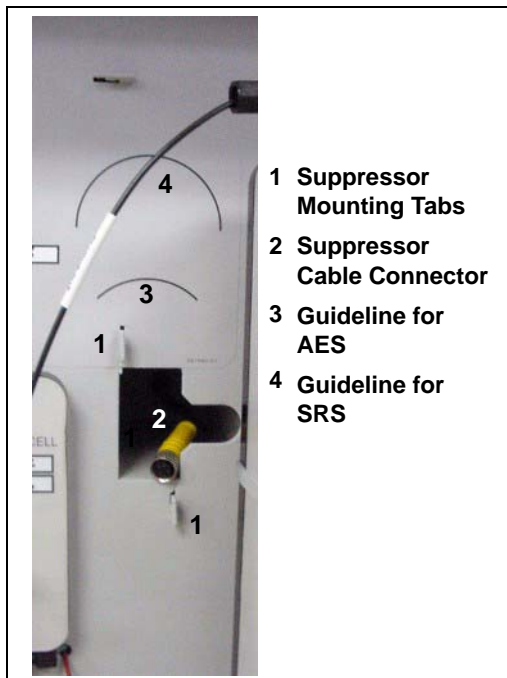

Figure B-20. Suppressor Mounting Tabs and Guidelines
1. Locate the suppressor mounting tabs on the component panel (see Figure B-20). Reach into the opening between the tabs and pull the yellow connector and attached cable slightly out of the opening.
5. Align the top of the suppressor with the guideline printed on the component panel (see Figure B-20) and align the slots on the rear of the suppressor with the tabs on the panel.